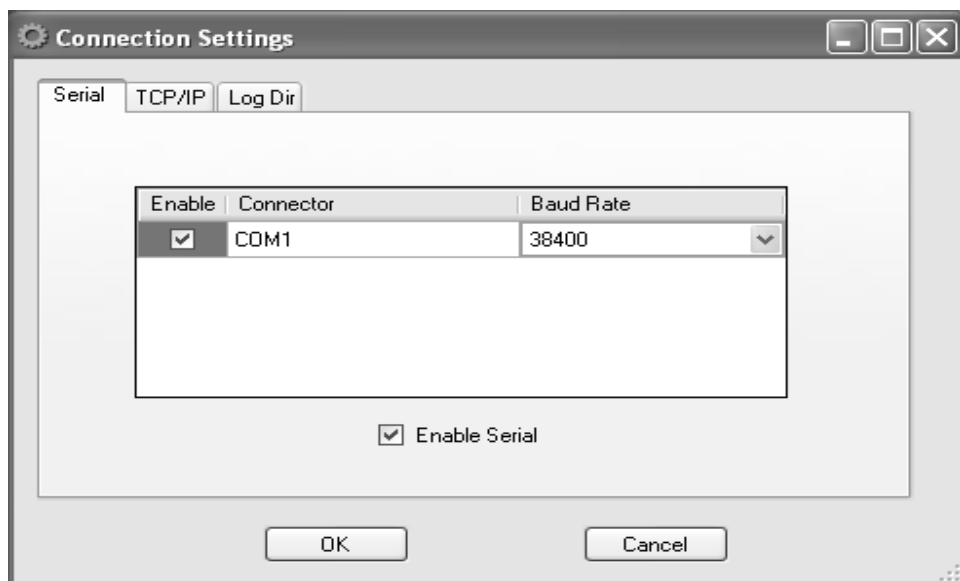

Fig. 2-4. Screenshot of 'Serial' selection in the Connection Settings dialog box
4. Click the ‘Main’ menu of the UGA software, and select ‘Connection Settings’. The following dialog box will appear as shown in Fig. 2-4